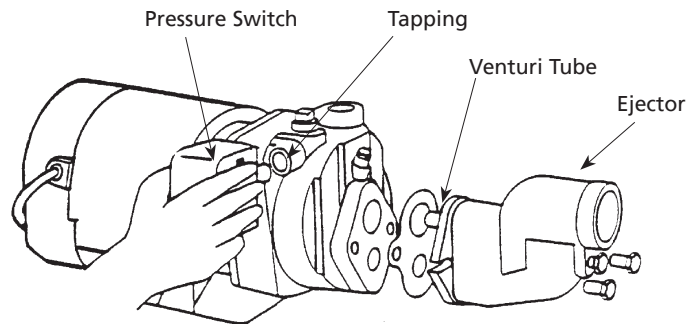

Figure 12 - Shallow Well Pump
1. Attach ejector to face of pump with two bolts and gasket provided. The venturi tube inserts into the top tapping on the face of the pump (See Figure 12).
2. Remove 1/4" plug from side of pump. Apply two wraps of Teflon® tape provided to threads of the pressure switch and screw into tapping as shown in Figure 12. Refer to Electrical Section for pressure switch wiring.
1. Shallow well pumps include the ejector. The nozzle and venturi are included (See Figure 12).